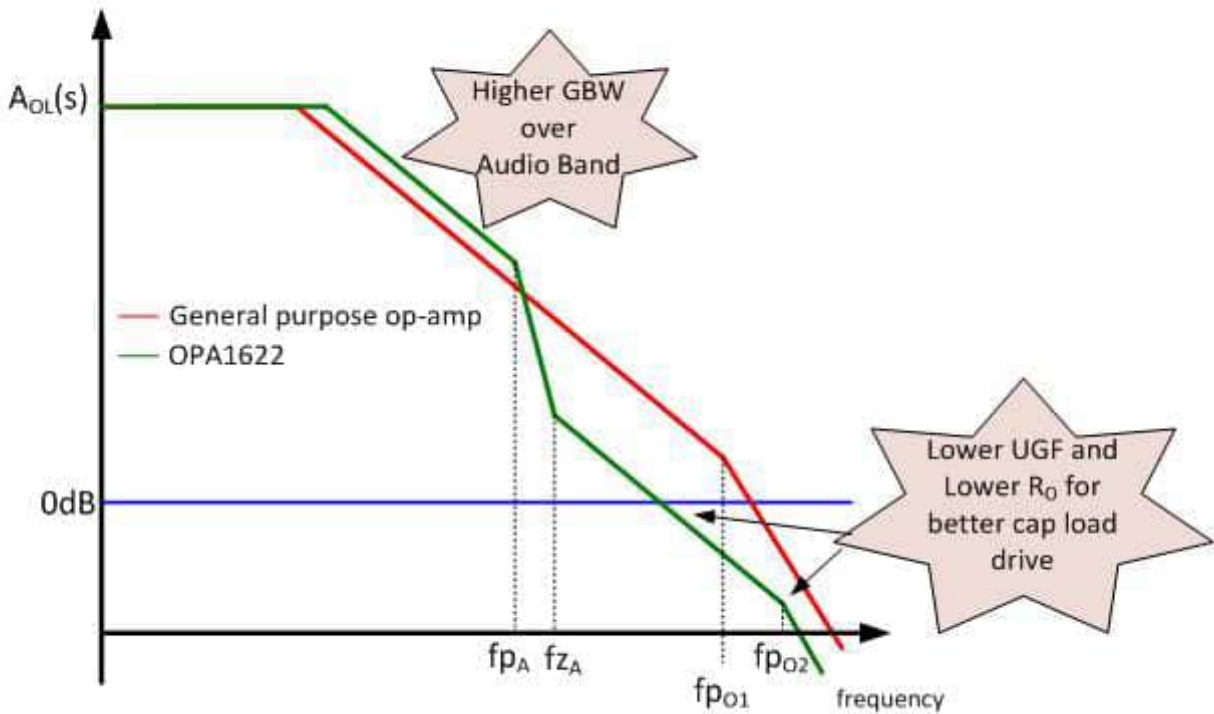

Figure 5: OPA1622 open-loop response vs. general-purpose amplifier for large capacitive load
With the OPA1622, we took a different approach. We developed an output stage with very low output impedance that pushes the second pole (created by the capacitive load) to a higher frequency. We added additional poles and zeros to the open-loop gain curve at frequencies  $f_{p_A}$  and  $f_{z_A}$  (shown in Figure 5), choosing the location of the pole-zero pairs and the pole-zero separation to:
- Roll off the open-loop response to cross unity-gain well below the output pole,  $f_{p_{O2}}$ , resulting in sufficient phase margin with a large capacitive load. See Figure 5.